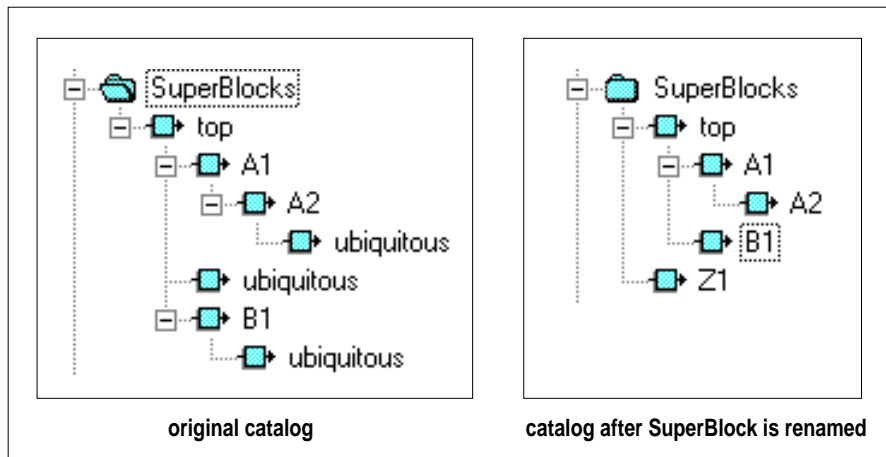

FIGURE 3-9 Renaming a SuperBlock Without Renaming References
- If you rename a SuperBlock and do not rename references, a copy of the original SuperBlock with the new name appears at the top-level of the SuperBlock hierarchy. All references to the original SuperBlock retain the old name but become undefined; they will not appear in the catalog. Figure 3-9 on page 3-16 shows the effect of “ubiquitous” being renamed to “Z1”. Although the undefined SuperBlocks do not appear in the catalog, they will remain in the block diagram, and they will still be named “ubiquitous”.